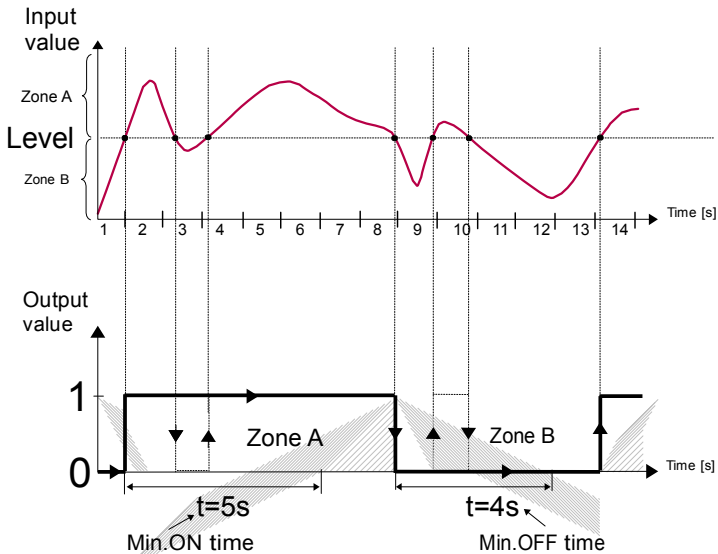

Fig. 7.85. Principle of relay output operation for sample timing settings:
- Minimum ON time - the minimum duration of a high state (if the output switches to high state the low state will occur after this time) - see Fig. 7.85,
- Minimum OFF time - the minimum duration of a low state (if the output switches to low state the high state will occur after this time) - see Fig. 7.85,